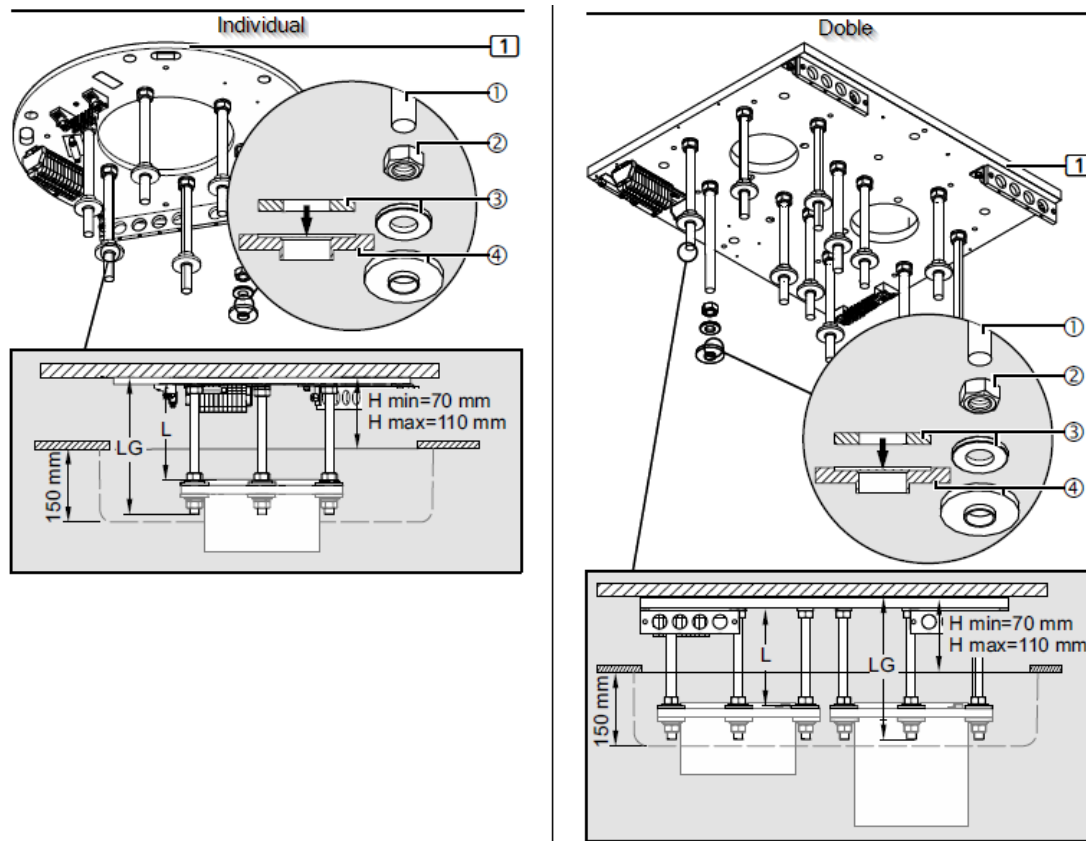

Fig. 18 Fitting of the upper insulation to the threaded bolts without a false ceiling
- Set the distance between the M16 hex nuts ② and the interface plate from 1 to $L = LG - 95$ mm (min. 110 mm / 150 mm).
- Screw the hexagon nuts M16 ② onto the M16 threaded bolts ① at the calculated distance L.
- Using a digital spirit level, align the M16 hex nuts ② horizontally.
- Fit 1 flat washer with an outer diameter of 34 mm ③.
- Place 1 plastic insulating disc ④ (as shown in figure 18) in such a way that the flat washer with an outer diameter of 34 mm ③ sits on the plastic insulating disc ④.
- Secure the plastic insulating disc ④ to the M16 threaded bolts ① with adhesive or elastic tape.